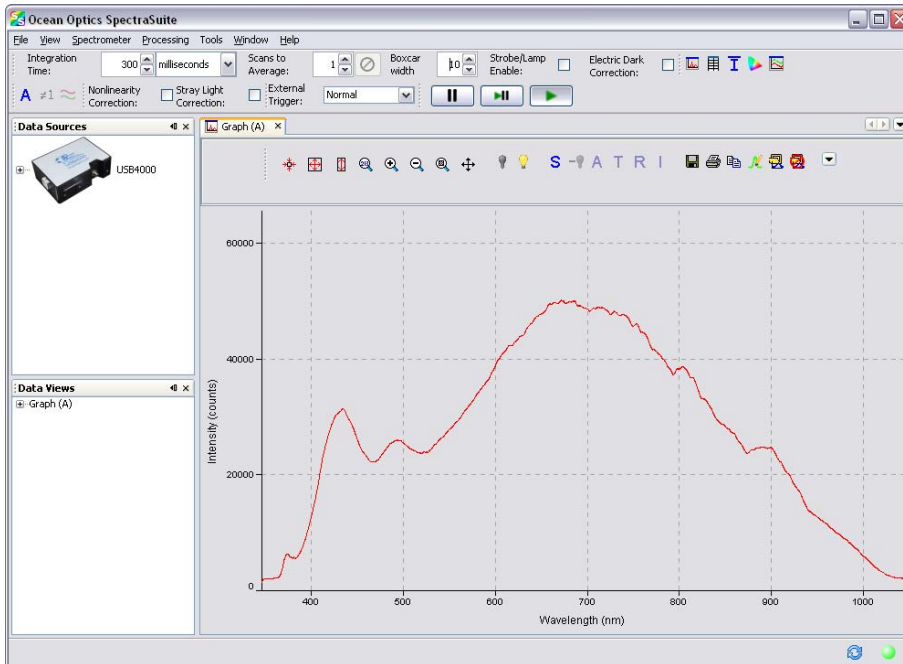

Figure 7. Intensity spectrum of the light source of the CI-710
5. Turn on the light source on the leaf probe. The curve seen on the screen is the intensity spectrum of the light source, similar to the one shown in Fig. 7. Wait for about one minute when the light intensity stabilizes, then click the  icon to store the incident light intensity spectrum, or the “Reference spectrum”. Note that the rest of the measurement icons, **A T R I**, are now all visible. It is ready to make measurements.
probe. The curve seen on the screen is the intensity spectrum of the light source, similar to the one shown in Fig. 7. Wait for about one minute when the light intensity stabilizes, then click the  icon to store the incident light intensity spectrum, or the “Reference spectrum”. Note that the rest of the measurement icons, **A T R I**, are now all visible. It is ready to make measurements.